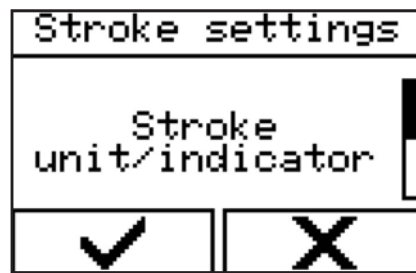

Figure 93 - Selecting a menu
1. Select the menu via 'Control' → 'Stroke settings' → 'Stroke unit/indicator' (Figure 93).